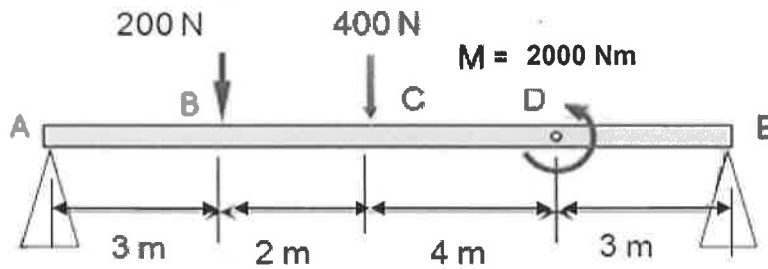

Figure 2
- (a) Compute the shear and moment equations for the beams problems as shown in Figure 2.